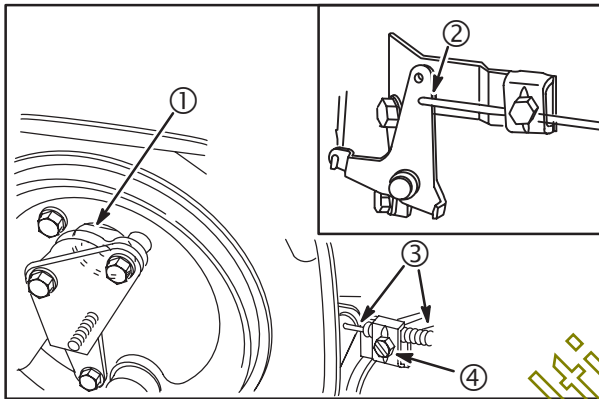

Fig. 24
NOTE: Be sure choke control wire is installed in #2 hole (2) in choke lever, **Fig. 24.**